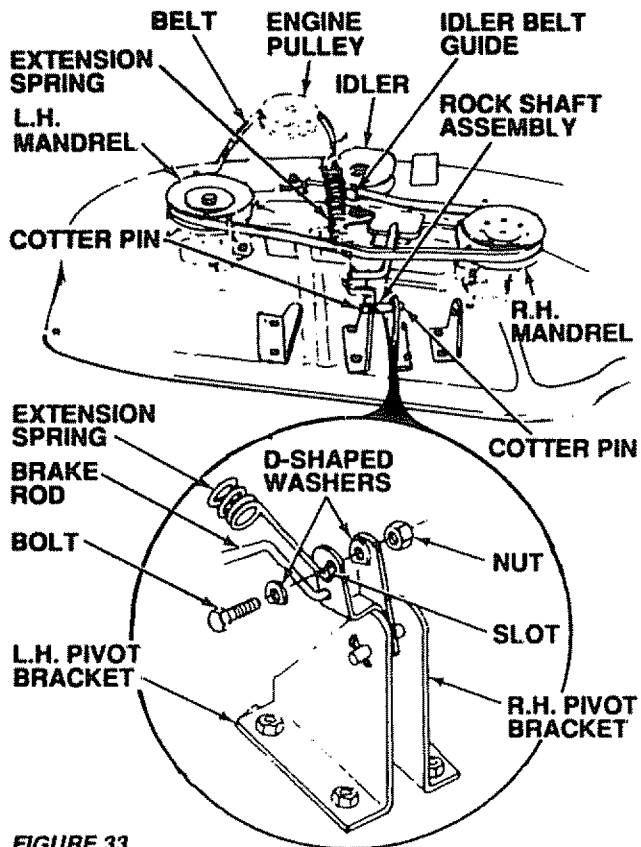

FIGURE 33
- Slide belt under extension spring (Fig. 33).
- Using (2) 7/16" wrenches, remove the bolt, nut & D-Shaped washers (Fig. 33 - inset).